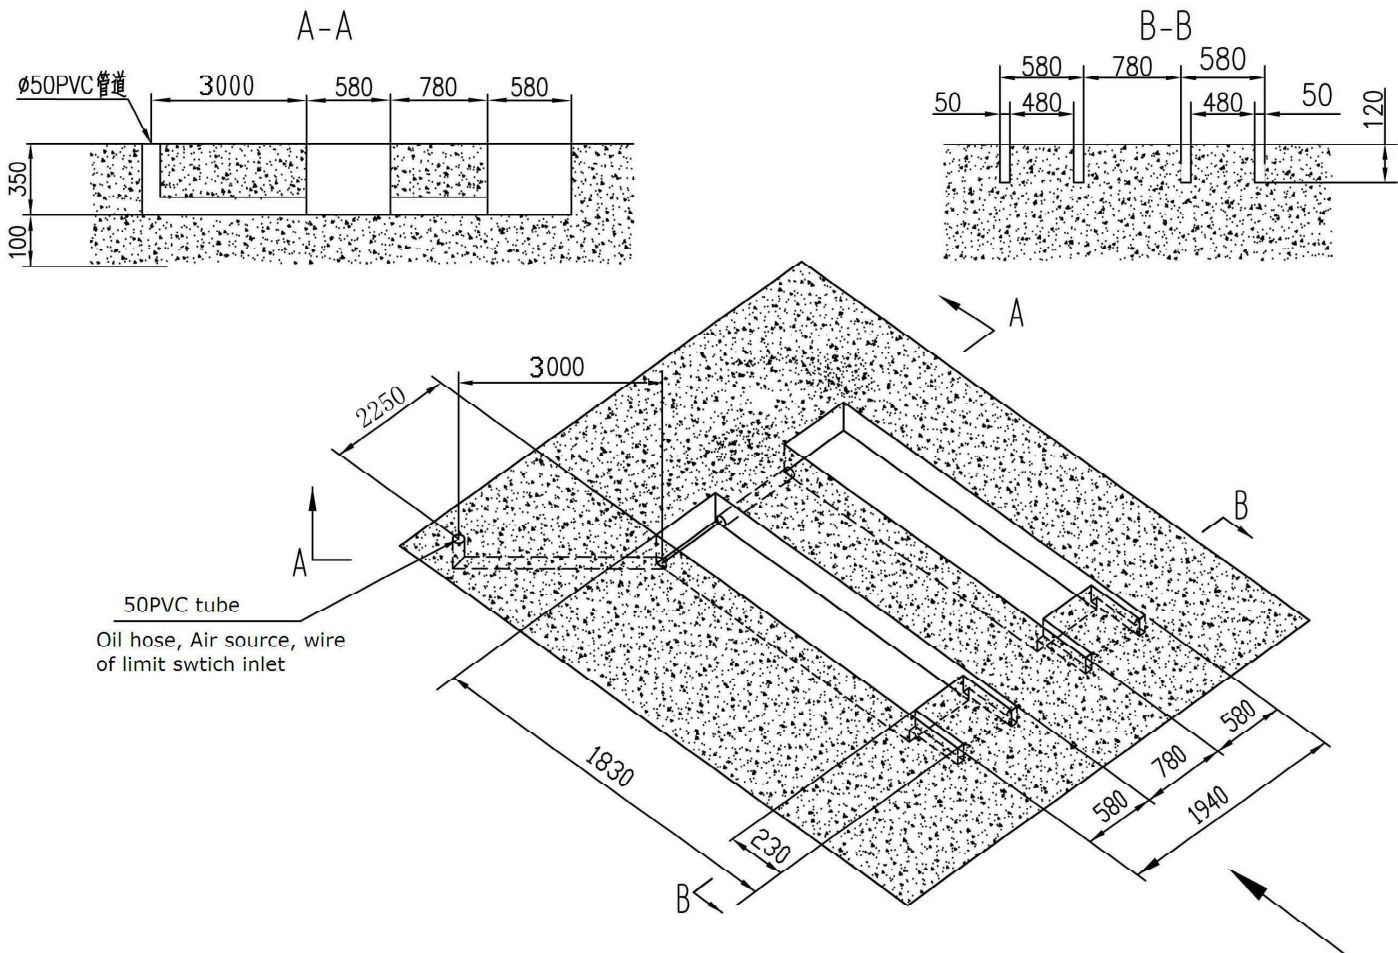

Fig. 3
A. Location of installation (See Fig. 3)